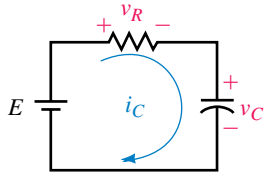

FIGURE 11–8 Circuit for the charging case. Capacitor is initially uncharged.
2. Plot the computed values on graph paper and verify that they yield curves that look like those shown in Figure 11–2(b) and (c).
We will now develop equations for voltages and current during charging. Consider Figure 11–8. KVL yields